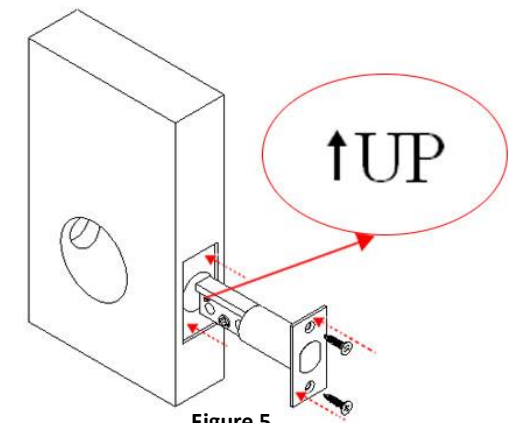

Figure 5
2. Insert the deadbolt body into the matching hole slot (see **Figure 5 below**):